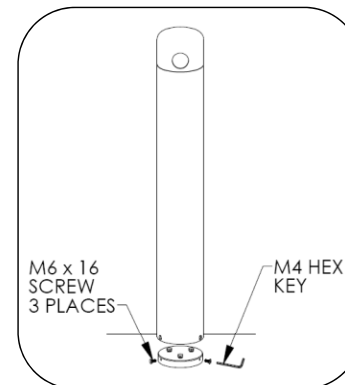

Fig. 5 – Install unit
7. Install unit over base plate with (3) M6x16mm hex head screws, Fig. 5.